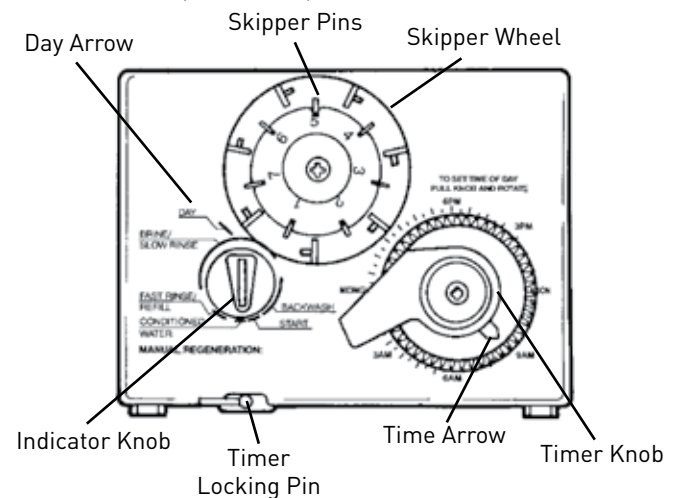

Figure 10
- b. Carefully advance indicator knob COUNTERCLOCKWISE to center of FAST RINSE/REFILL position and hold there until air check (Figure 10) fills with water and water starts to flow through brine line into brine tank. Do not run for more than two minutes.